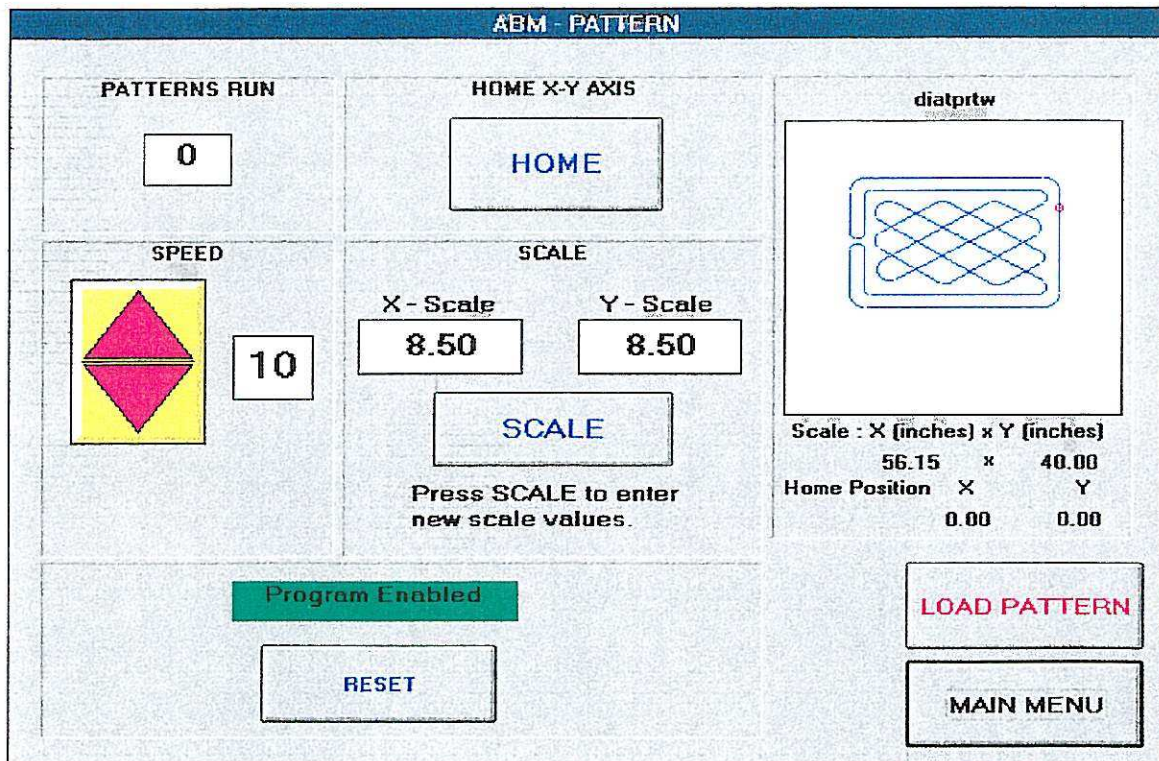

Figure 4.12
- A. Flip the “Sewhead” switch to the “On” position and press the “Start” button. The words in the mode box will change to “Pattern running” and the color of the box to blue. See *Figure 4.12*.